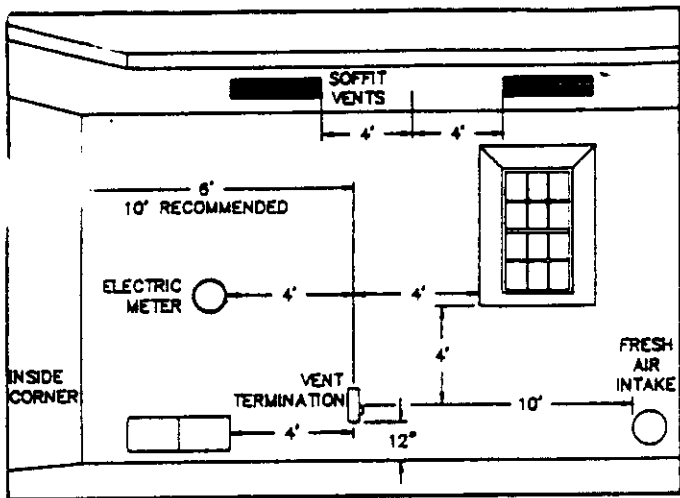

Figure 1
- b. Locate vent termination following the minimum clearances listed below and see Figure 1.